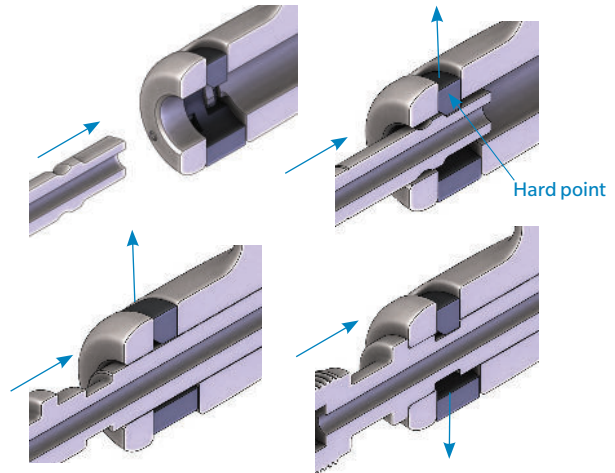

Figure 2
- During the assembly sequence, a hard point must be passed for the shaft to be fully inserted (Figure 2).